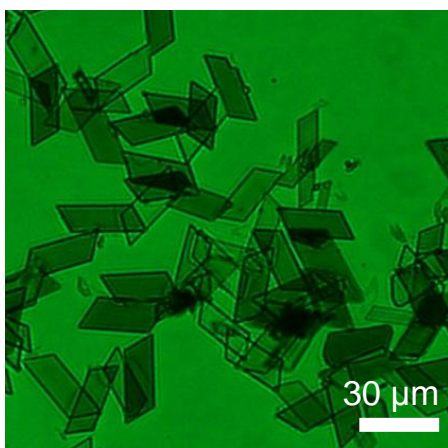

Fig. S4 POM image of microsheets prepared from 1.1×10^{-3} M THF/H₂O.
4. Fig. S4 POM image of microsheets	pS4